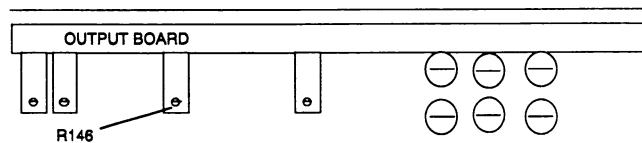

Figure 4-7. R146 Locator
3. View the carrier null signal on the scope. If necessary, slide the cover back and adjust R146 (see figure 4-7) to center the scope trace. Then use the **Knob** to adjust for best square wave signal null. Slide the top cover back on.